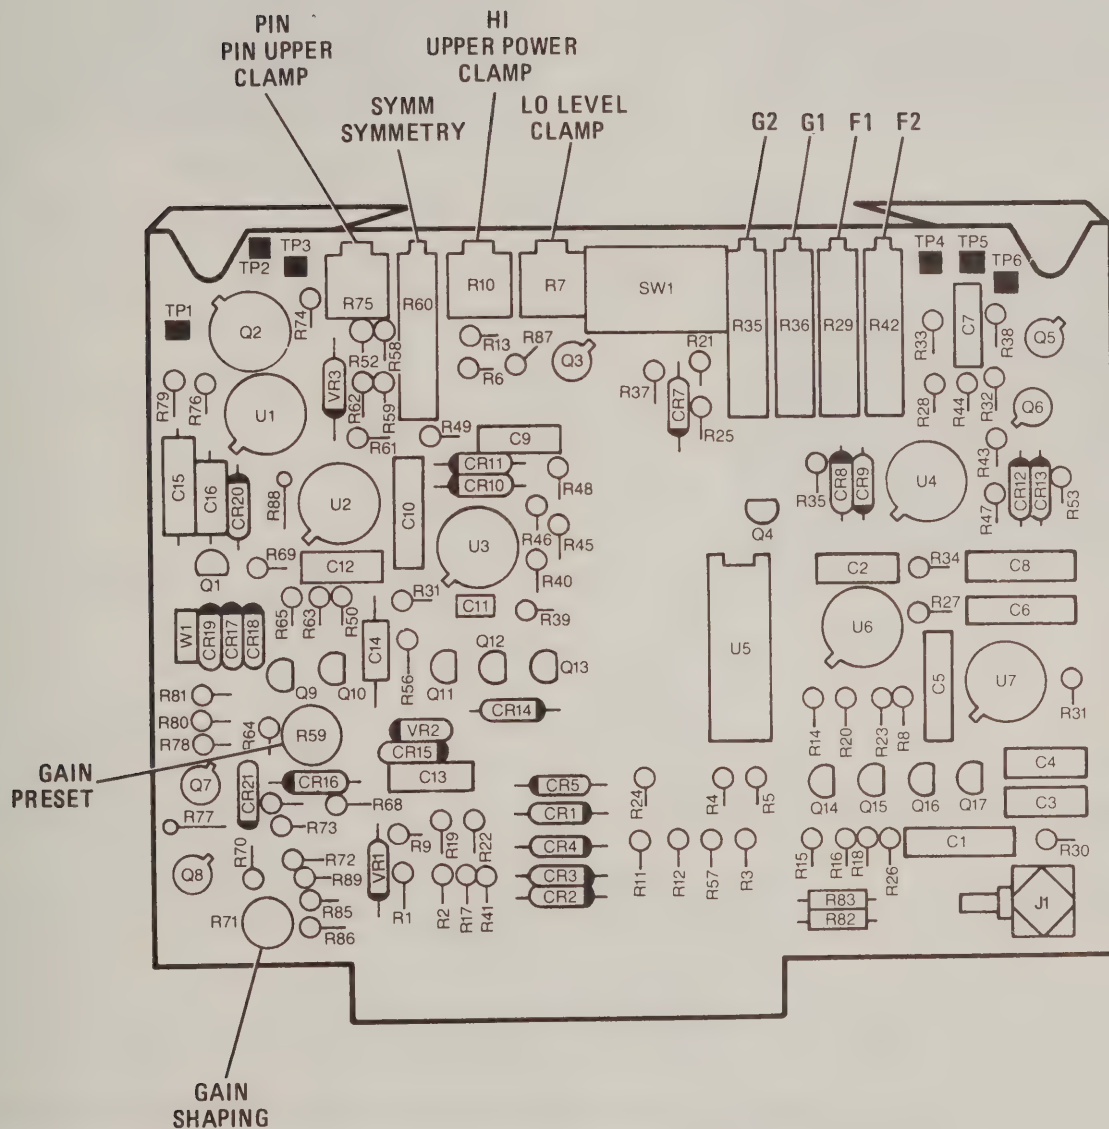

Figure 5-24. ALC Adjustment Locations
- c. Preset adjustments as follows (Component Location, Figure 5-24).